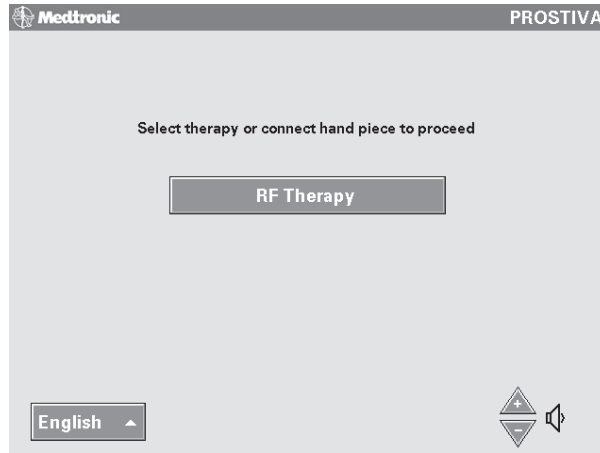

Figure 4-10. Confirm Prostiva RF Therapy Screen Display.
2. Confirm that the Prostiva RF Therapy screen is displayed (Figure 4-10); press the RF Therapy button.